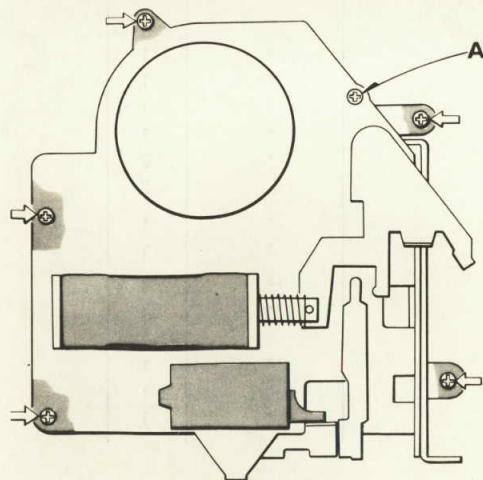

Fig. 14
- 1) Remove the 5 screws. (See figure 14)